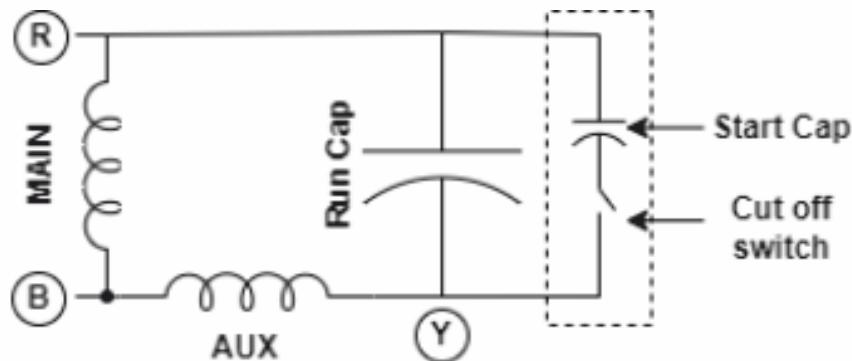
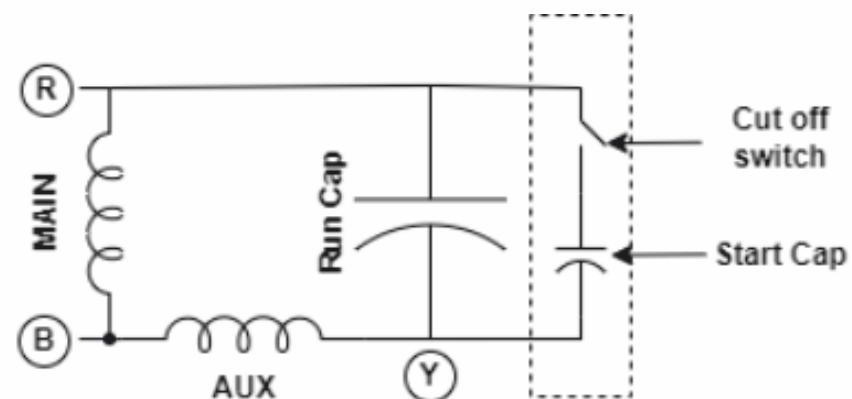

Fig 6.10a Connection diagram with cut-off switch connected to Aux winding
Fig 6.10b Connection diagram with cut-off switch connected to main winding
- Make sure that "B" wire of the drive connects to the "Common (C) / junction of main and Aux winding" of the motor. The controller makes VRB = Main winding voltage and VYB = Aux winding voltage.
- If someone wants to use the motor with the utility supply as well as USPC. A shakti changeover switch is required to switch the input power connection. The overall connection diagrams are shown in Fig 6.10a and Fig 6.10B, wherein the start capacitor should be connected on the utility side of changeover box.